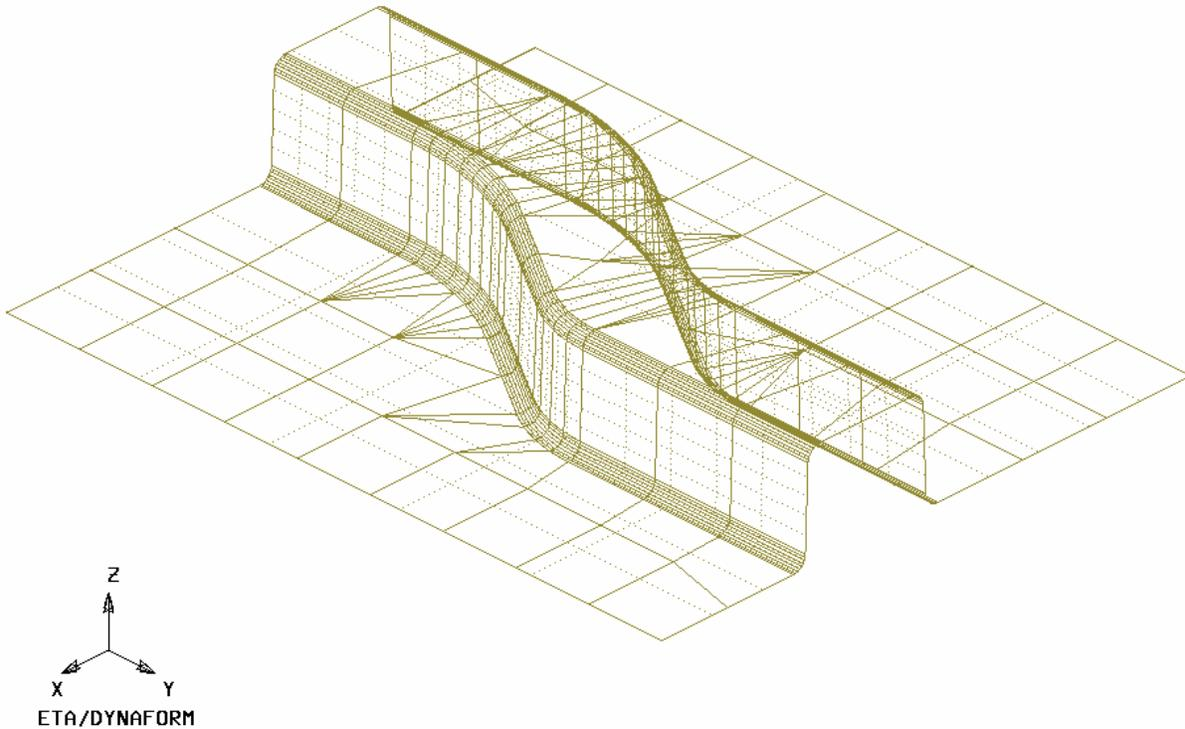

Figure 30: Tool mesh
- The mesh will be created and will be displayed in white. To accept the mesh, click the **Yes** button when prompted, “**Accept Mesh?**” in the **Surface Mesh** dialog box. Compare your mesh with the mesh displayed in Figure 30.